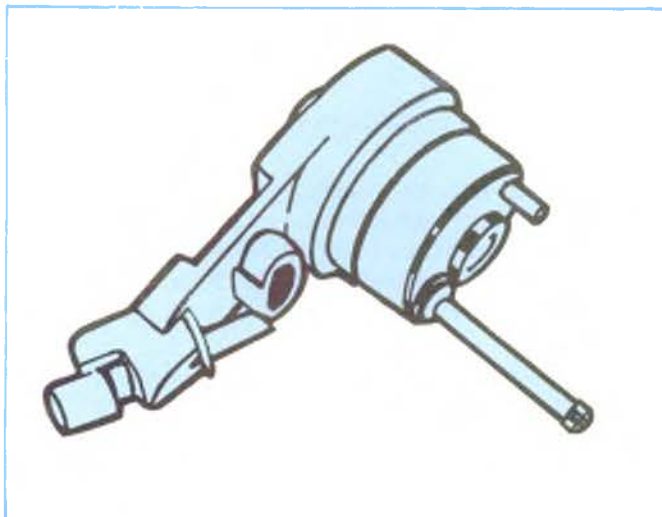

Figure 4-161, Tool #J33042.
2. Install timing fixture (J-33042) in F.I. pump location (Figure 4-161). Do not use gasket.